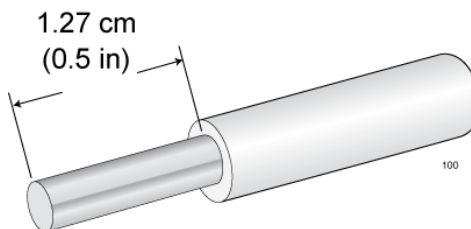

Figure 51. Stripping the Grounding Wire
1. Prepare an adequate length of stranded grounding wire (10 AWG) for the ground connection by stripping it as shown in Figure 51.